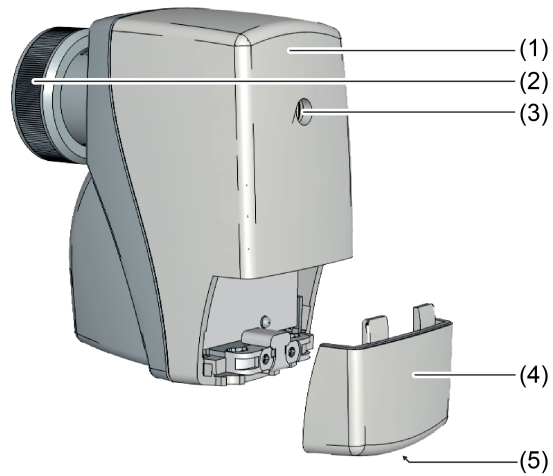

Figure 1: Device components, front view
- Knurled nut (figure 1) and hand-tighten it (b).
- Knurled nut (figure 1)(a).